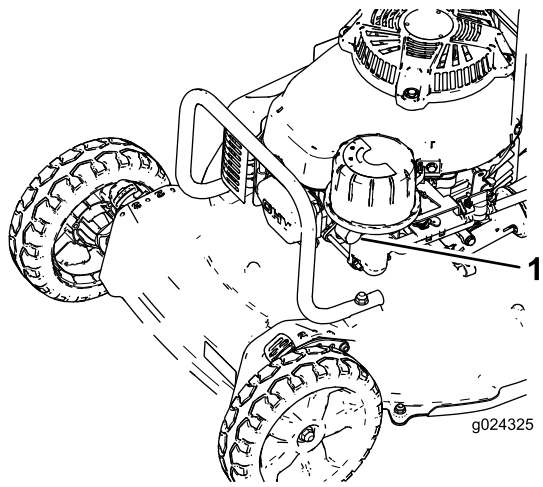

Figure 16
3. Firmly push in the primer (Figure 16), holding the primer bulb in for 1 second.